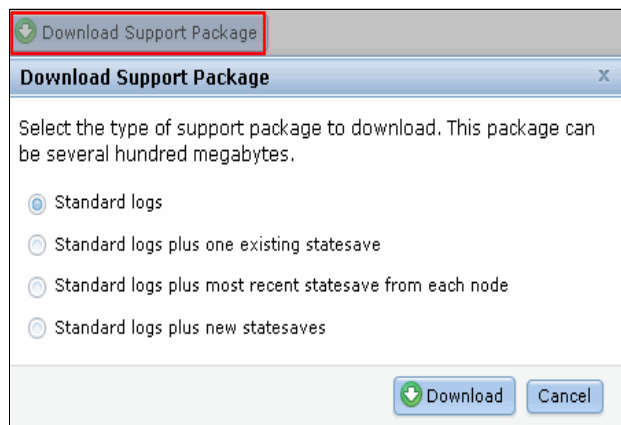

Figure 12-21 Support package selection
3. Select the **Show full log listing...** option (as shown in Figure 12-21) to list all of the available log files that are stored on the configuration node.